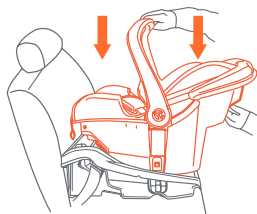

Fig. 45-1
2. Remove the Safety Seat from the base by squeezing the base release handle located under the center of the head end of the Safety Seat and lifting upward on the Safety Seat (See Fig. 24-1). **Store both LATCH connectors as shown in Fig. 45-1.**
10. If you are using the Base, check that nothing is on top of the base, or anything that will interfere with the proper latching of the Safety Seat to the Base. Place the Safety Seat onto the Base and push down until the Safety Seat latches securely to the Base and you hear a click (Fig. 45-1). **Pull upward on the Safety Seat to check that the Safety Seat is securely latched onto the base (Fig. 45-2).**